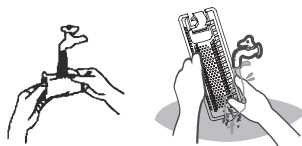

Fig.2
2. Clean the Lint Filter (Fig.2)